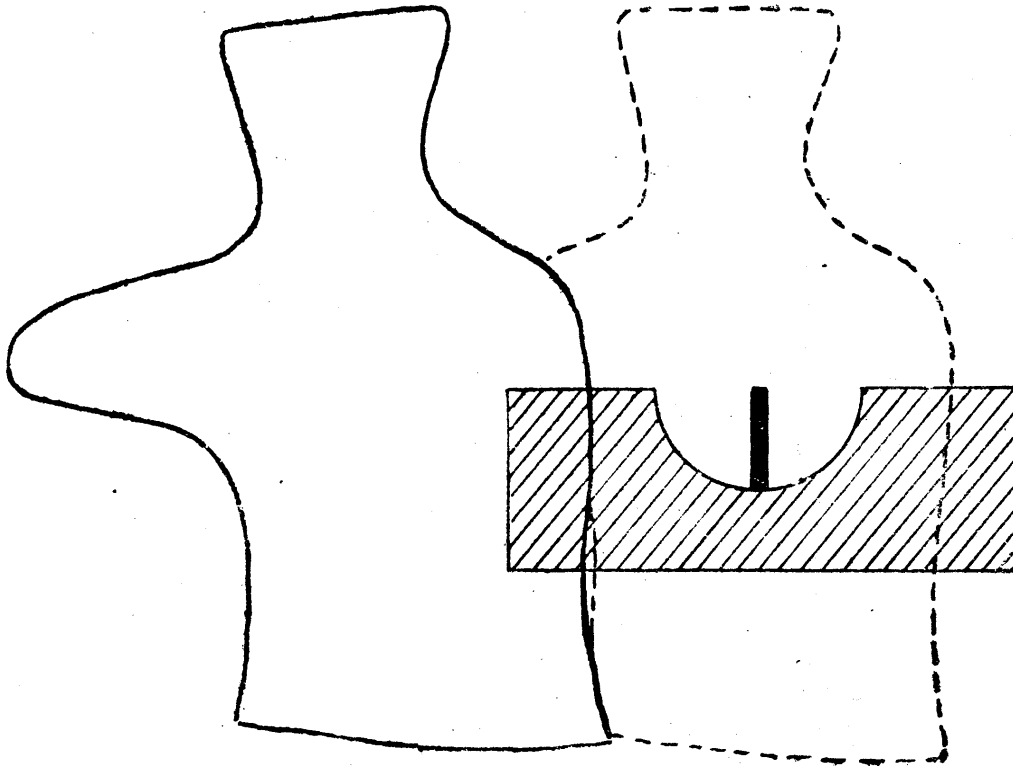

Fig. 4
2. Demonstrate what 1 man's width looks like by assistant at 200 or 300 yards, placing auxiliary figure to right or left of target. Instructor aims at auxiliary. Auxiliary removed. Squad view. Instructor points out how elevation is maintained by having half the target resting on the shoulders of the backsight and the foresight in line with the shoulders (show diagram Fig. 4).
3. Practise squad aiming off up to 2 men's widths at various ranges. Check with auxiliary (*see* Fig. 4).